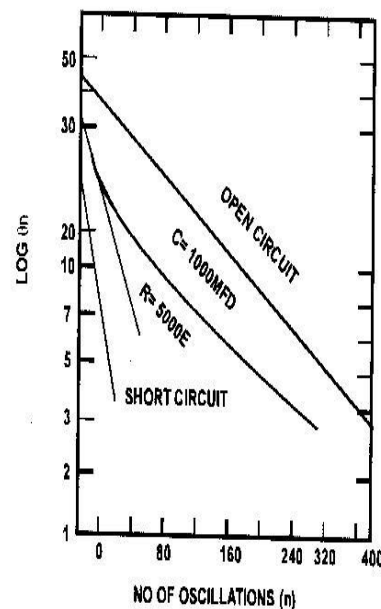

Fig.7. Graph showing the variation of Induced charge with no. of oscillations
- 2 Plot $q=CV$ against number of swings (n). Observe the plot to be a straight line as shown in Fig 7.